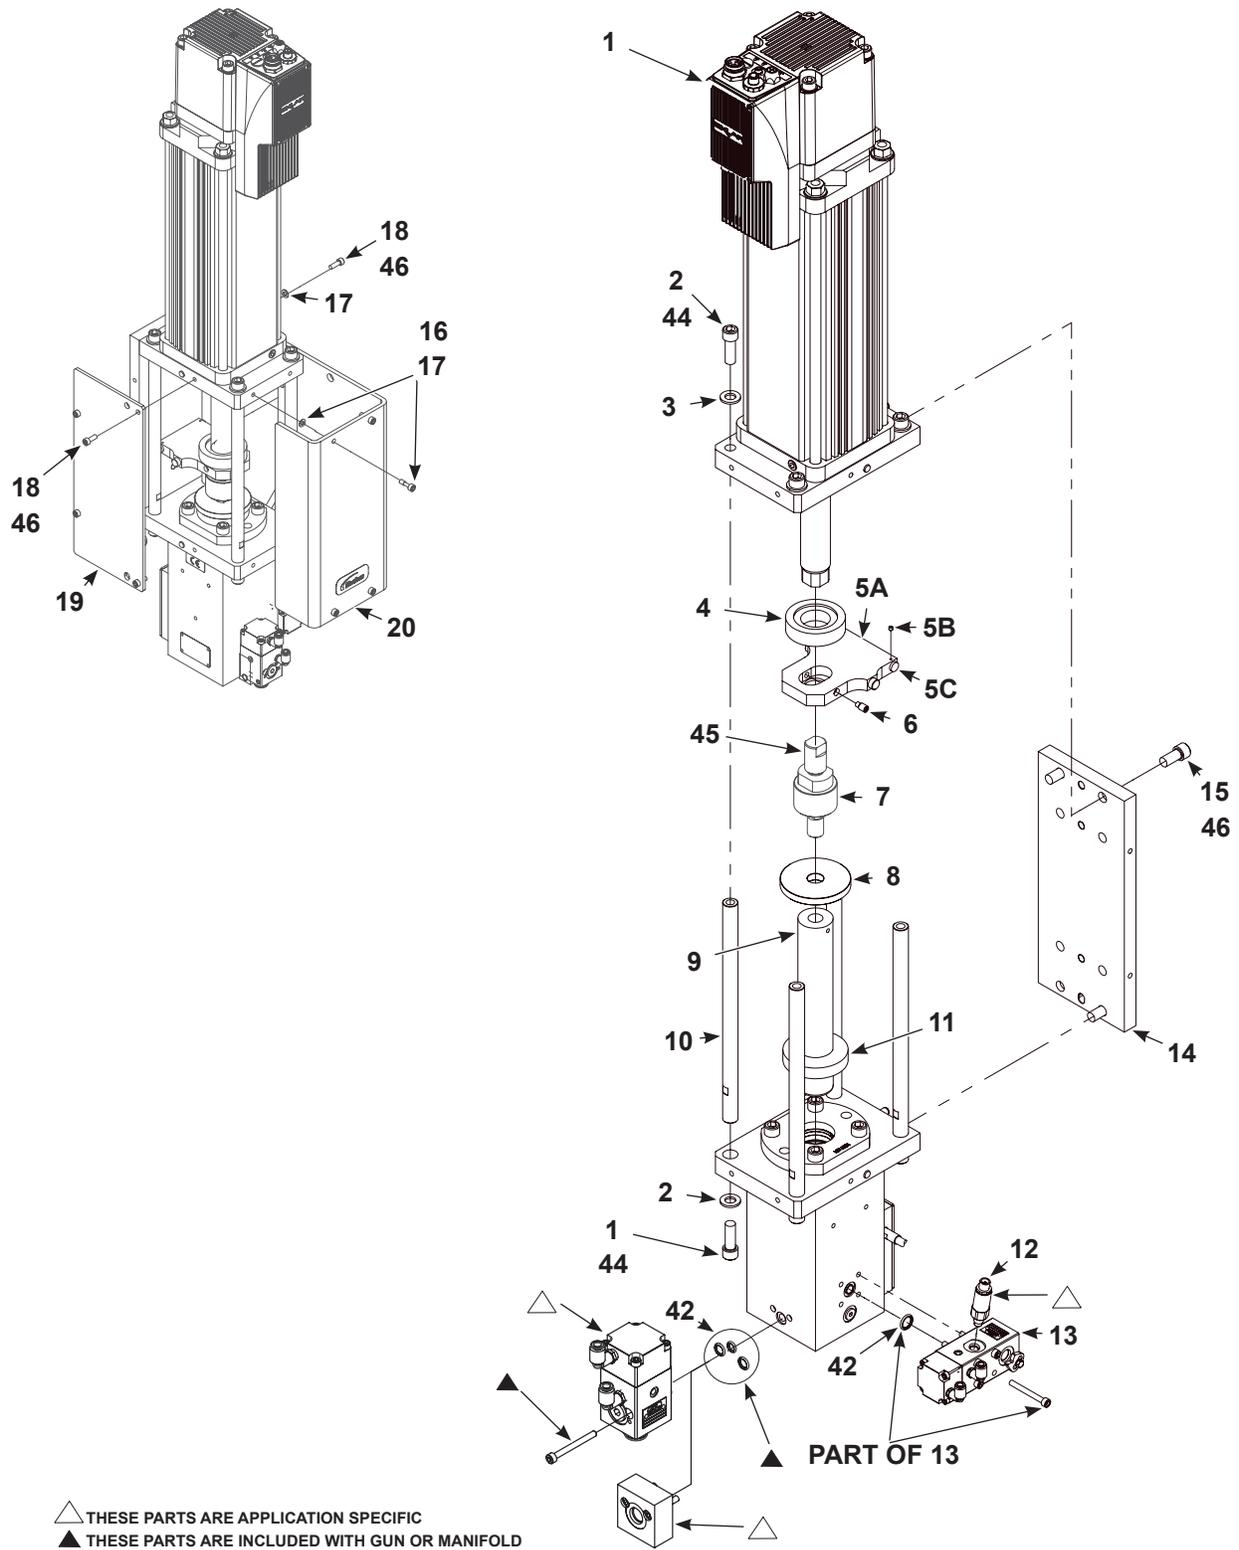
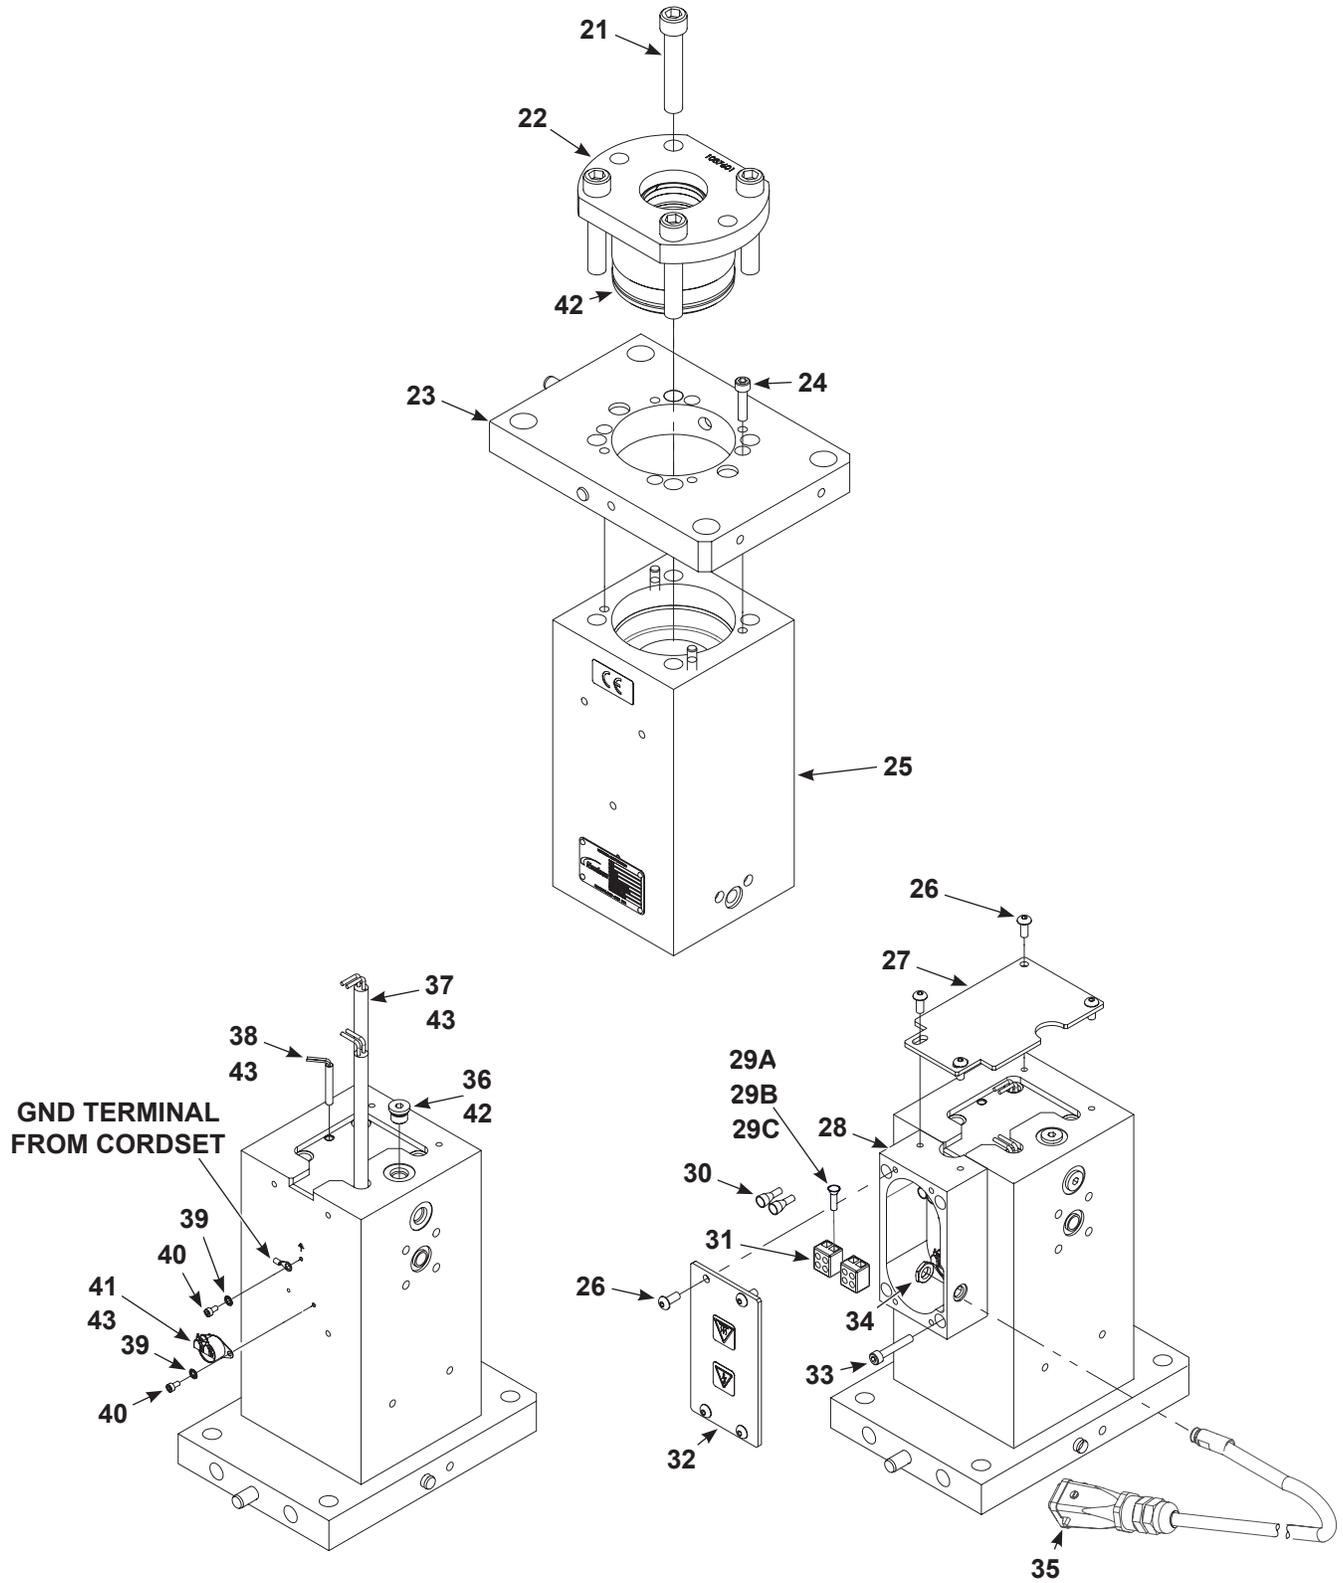
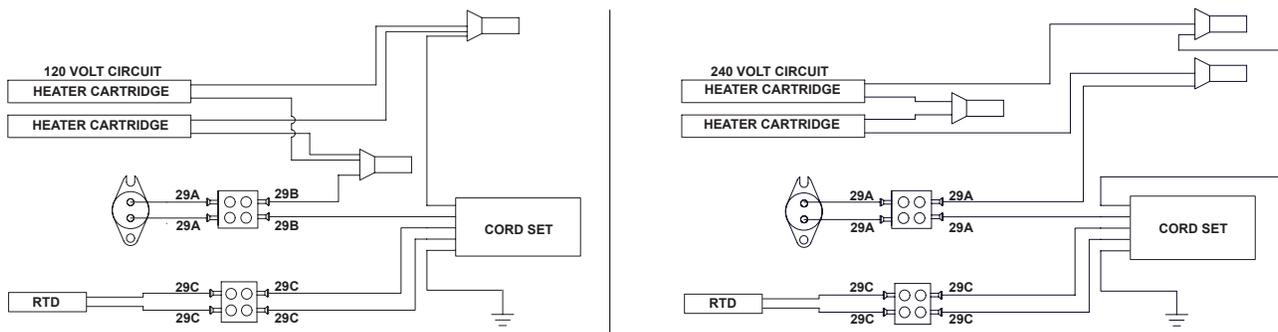

Figure 39 S165 120/240 V Heated E-Net Dispenser Parts
Figure 40 S165 120/240 V Heated E-Net Dispenser Parts (Continued)
Figure 41 S165 120/240 Volt Heated E-Net Dispenser Parts (Continued)
See Figure 39, Figure 40, Figure 41, and the parts list that begins on page 75.
D. See Figure 41 for ferrule location.